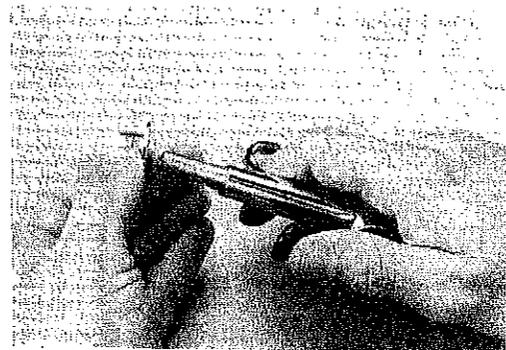

Fig. 11A
12. Remove the valve seat(26) from the end plug by directing short blasts of low pressure air through the small opening found directly in the center of the end plug. (See fig. 11A.) First, wrap a cloth over the seat to prevent it from ejecting suddenly and becoming lost. Discard and DO NOT attempt to reuse.